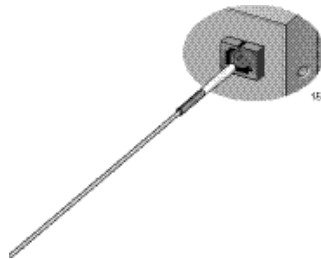

Figure 49. Cleaning a Recessed Ferrule
1. Insert the swab into the adapter as shown in Figure 49 and rub the ferrule tip with the swab.